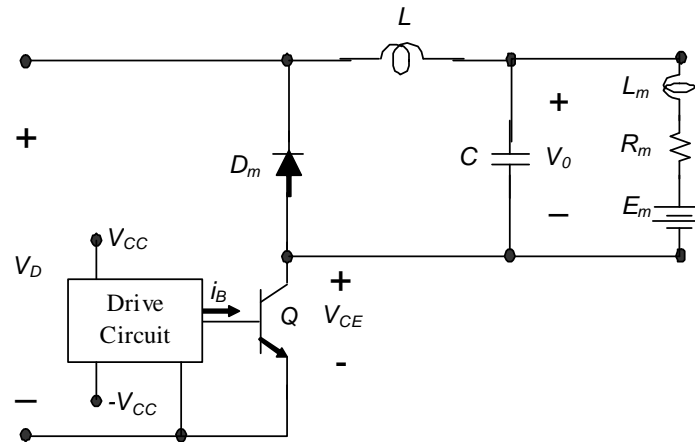

Fig. 1: Switching converter driving a dc motor
3. It is required to design a buck converter to supply a permanent dc motor from a 240V dc source. The motor voltage is to be controlled in the range 100 to 200 V with an allowable peak to peak ripple of 5%. The motor current is constant at 5A with negligible ripple. The converter may be built using a power BJT that can operate in the range 1 to 25 kHz. The circuit diagram of the converter is shown in Fig. 1.